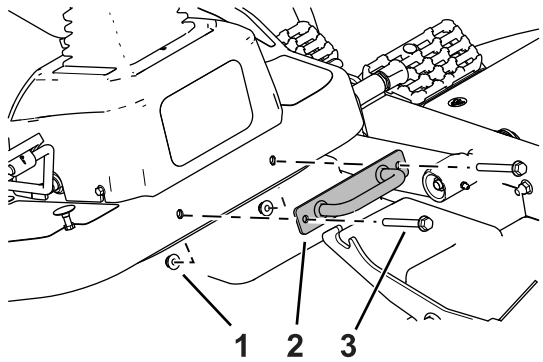

Figure 4
6. Remove the front mower-deck latch from the front of the machine (Figure 4). Save the latch and hardware.